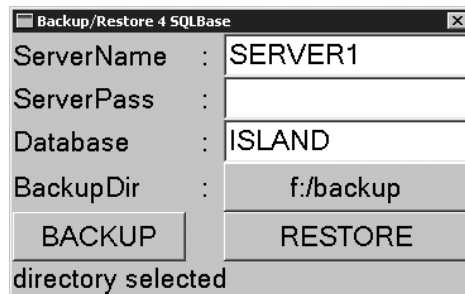

Fig. 21 Selected directory for restore.
3. Enter data as shown in Fig. 21
15. Enter data as shown in Fig. 21